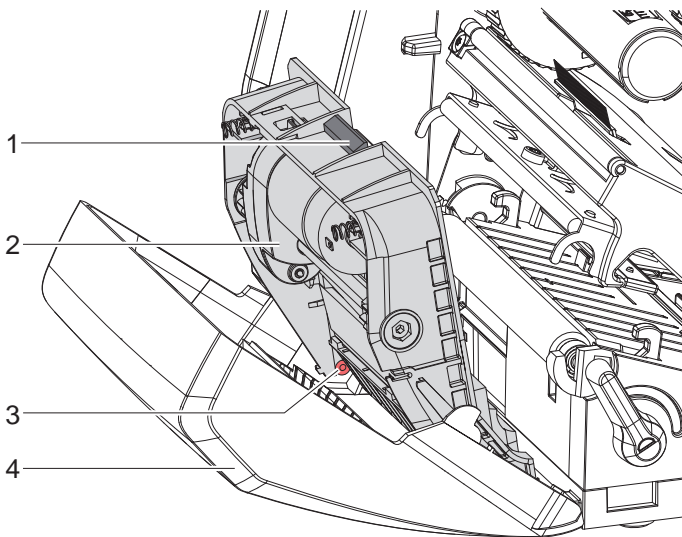

Bild 4 Dismount the cutter
- ▶ Turn the shaft (6) clockwise using a torx wrench TX10 until the gear racks (7) cannot engage anymore.
- ▶ Pull the upper blade (9) out of the guides (8).
- ▶ Take out the lower blade (10).
- ▶ Push the lower blade down into the guides (11).
- ▶ If necessary, put the springs (12) back into the spring retainers (13).
- ▶ To re-mount the upper blade push the lower blade down on the cover and push the upper blade into the guide until the gear racks (7) can engage with the gear wheels (5).
- ▶ Turn the shaft (6) counterclockwise using a torx wrench TX10 until the blade reaches the upper limit.
2. Fit the blade unit (3) according to Fig. 4 into the axes (2) and fold it towards the cover (4) until it snaps in.